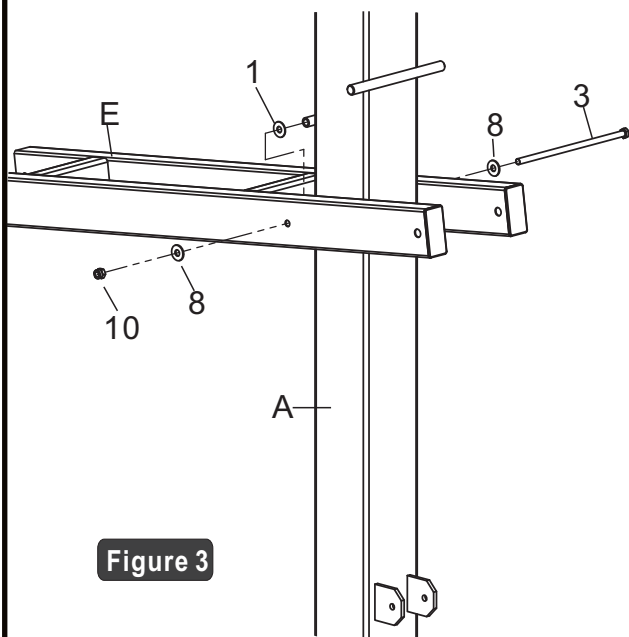

Figure 3
2. Attach Lower Extension arm (E) to Pole (A), as shown in **Figure 3**.